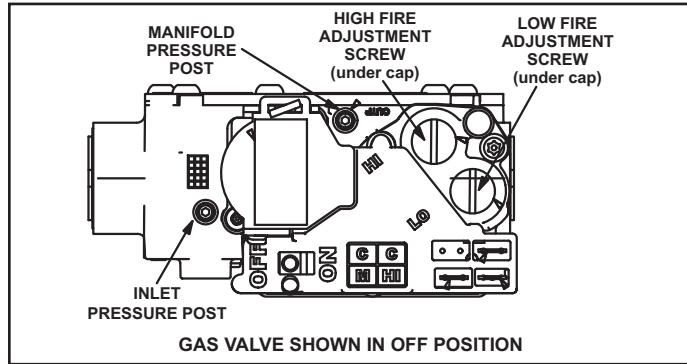
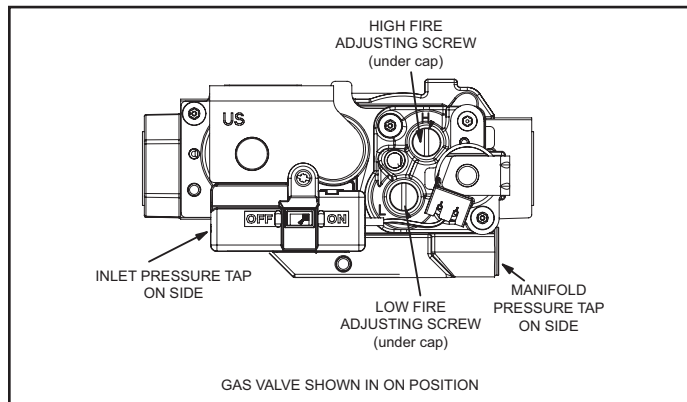

Figure 1. White Rodgers Gas Valve
Figure 2. Resideo Two-Stage Gas Valve
2. Remove the access panel. Move the automatic gas valve switch to OFF. See Figure 1 or Figure 2.
6. Move the switch on the gas valve to OFF. Do not force the switch. See Figure 1 or Figure 2.
7. Wait five (5) minutes for any gas to clear out. If you then smell gas, STOP! Immediately call your gas supplier from a neighbor's phone. Follow the gas supplier's instructions. If you do not smell gas, go to the next step.
An inlet pressure post located on the gas valve provides access to the supply pressure. See Figure 1 or Figure 2. Back out the 3/32 hex screw one turn, connect a piece of 5/16 tubing and connect to a manometer to measure supply pressure. Check supply pressure with unit on high fire. On multiple unit installations, check each unit separately and with other units operating. See Table 2 for supply line pressure. Following supply pressure test, shut off unit, remove manometer and tighten pressure post hex screw.